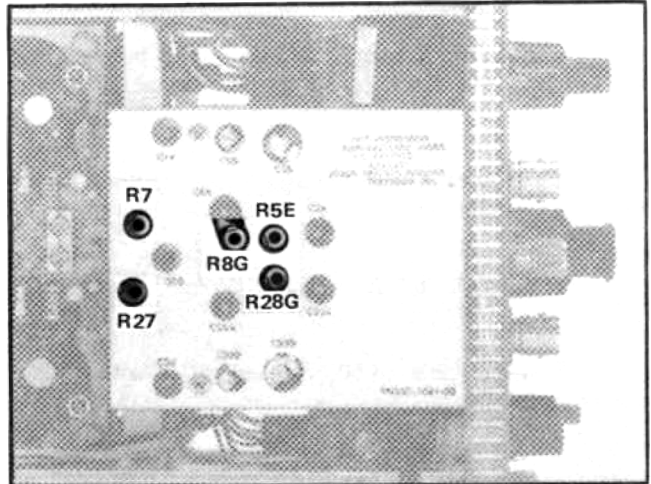

Fig. 5-7. Attenuator board adjustment locations used in the DC Input Resistance and Attenuator Ratio Adjustments procedure.
k. ADJUST—If trace shift exceeds  $\pm 0.3$  division, leave the + INPUT Mode switch in the DC position and adjust R8G (see Fig. 5-7) so that the trace is within the given tolerance. Recheck for no trace shift as the + INPUT switch is set from  $V_c$  to DC. If necessary, readjust R8G.
i. ADJUST—If a +4.500 volt reading is not obtained, adjust R7 (see Fig. 5-7) for a +4.500 volt indication on the Precision DC Voltmeter.
g. ADJUST—If the tolerance is exceeded, leave the + INPUT Mode switch in the DC position and adjust R5E (see Fig. 5-7) for minimum trace shift.
g. ADJUST—If trace shift exceeds  $\pm 0.3$  division, leave the – INPUT Mode switch at DC and adjust R28G (see Fig. 5-7) for minimum trace shift.
j. ADJUST—If a +4.500 volt reading is not obtained, adjust R27 (see Fig. 5-7) for a +4.500 volt indication on the Precision DC Voltmeter.